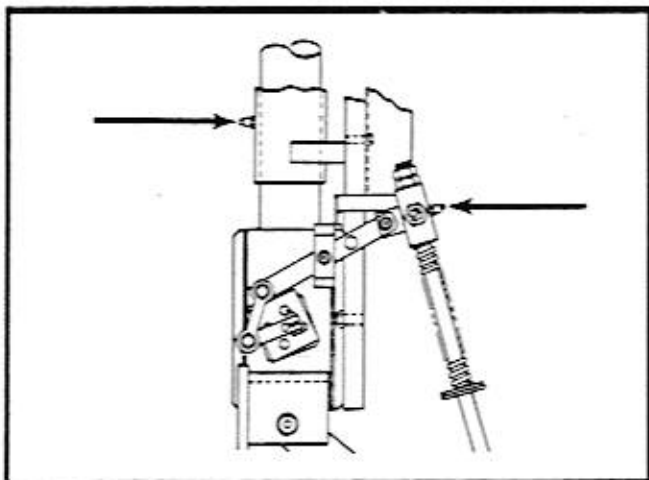

Figure 8-19. Grade Sensors
Lubricate the fittings with two (2) shots of MPG-EP grease. Refer to Figure 8-19.